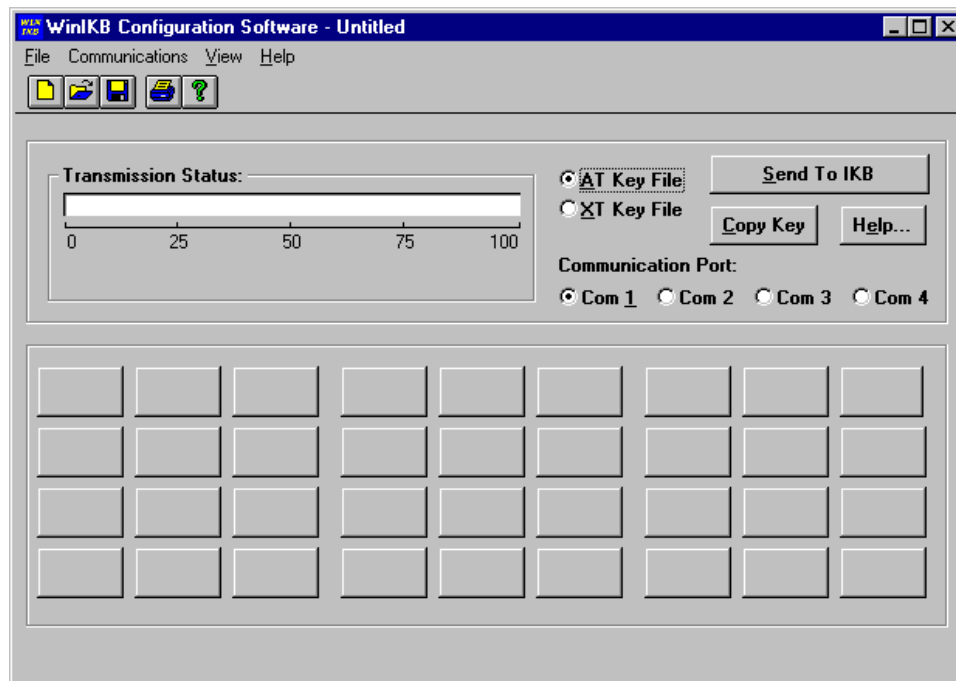

Figure 2.0
The **WinIKB** program's Main Screen will look as follows. (Figure 2.0)
- 5) Select 'Send To IKB' from the menu (Figure 2.0), to begin the transfer.
The computer will transmit the data file out COM1, COM2, COM3, or COM4 depending on the serial port selected on the Main Screen. (Figure 2.0) If everything goes well, it will take only a few seconds to transfer the file. When the file transfer is complete, the status LED on the IKB-1000 will flash green. If the transfer is not successful, the LED will flash red.
By default the IKB-1000 is configured as a PS/2 type keyboard. It will work with PS/2 type computers or PC/AT type computers. The IKB can be configured as a PC/XT type keyboard by selecting 'XT Key File' from the Main Menu. (Figure 2.0)